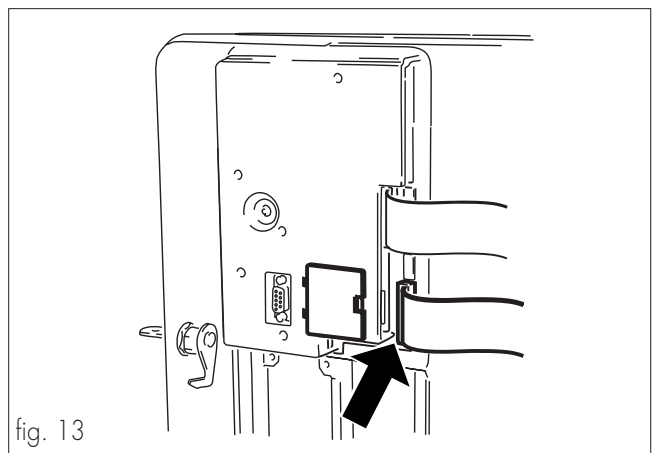

fig. 13
- Connect the flat cable to the electronic board (fig. 13).
*The module (ref. **A**, fig. 13) is inserted properly when the reference mark is in the lower part (fig. 14).*